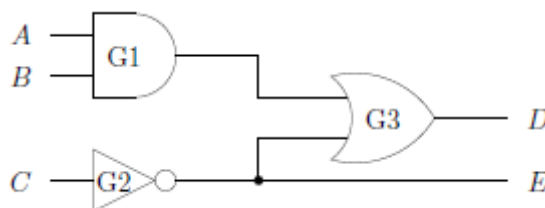

Figure 2: Simple Circuit
- 3.1.4. A simple program modeling a circuit (Figure 2) at the gate-level is described below.